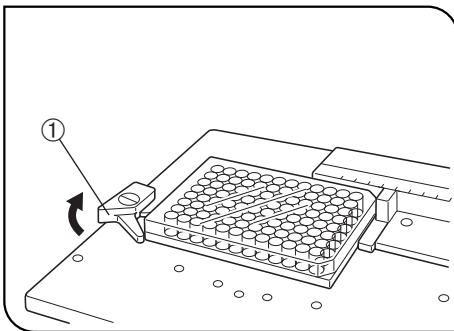

Fig. 14
(Figs. 14 & 15)
1. Open the spring-loaded finger of the specimen holder ① and slide the microtiter plate into the holder frame. Gently release the curved finger to clamp. (Fig. 14)